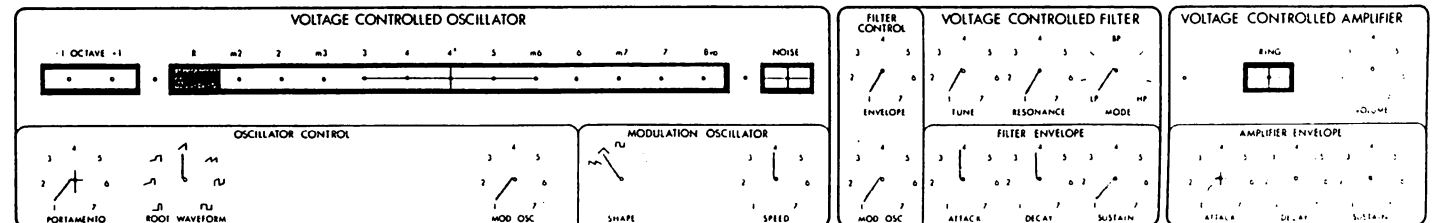

Fig. 4
1. Begin by setting your SynKey's controls as shown in Figure 4. With resonance set to 1 and mode set to LP (low pass), gradually rotate the TUNE control clockwise while holding down a low key. Notice that the note becomes progressively brighter. As you rotate the TUNE clockwise, you are actually permitting more overtones to pass (remember overtones are integral multiples of the basic pitch) without changing the strength of the fundamental pitch.
6. Return all controls to positions indicated in Figure 4, except set RESONANCE to 5 and ENVELOPE in the FILTER CONTROL section to 5. Thus far you have been using static timbres — now we are going to change timbre with time.
8. Reset all controls to positions shown in Figure 4, except RESONANCE at 5. Now rotate the MOD. OSC. control in the FILTER CONTROL section clockwise. You are now using the modulation oscillator to "sweep" the filter. The modulation oscillator is now effectively changing the filter tune.